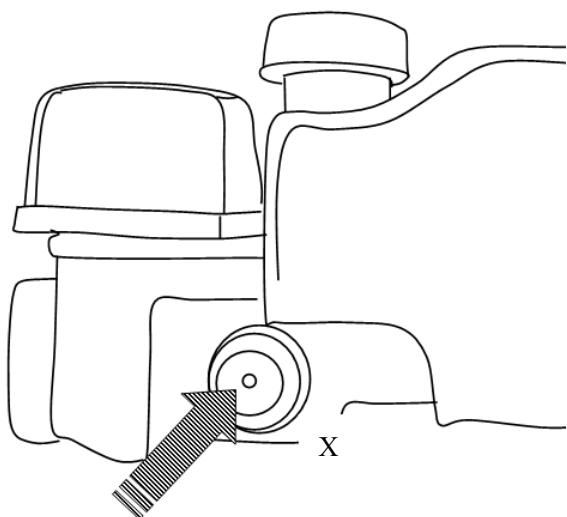

Fig.10
- Press the primer (X) (if present) with force 3 times (Fig.10).